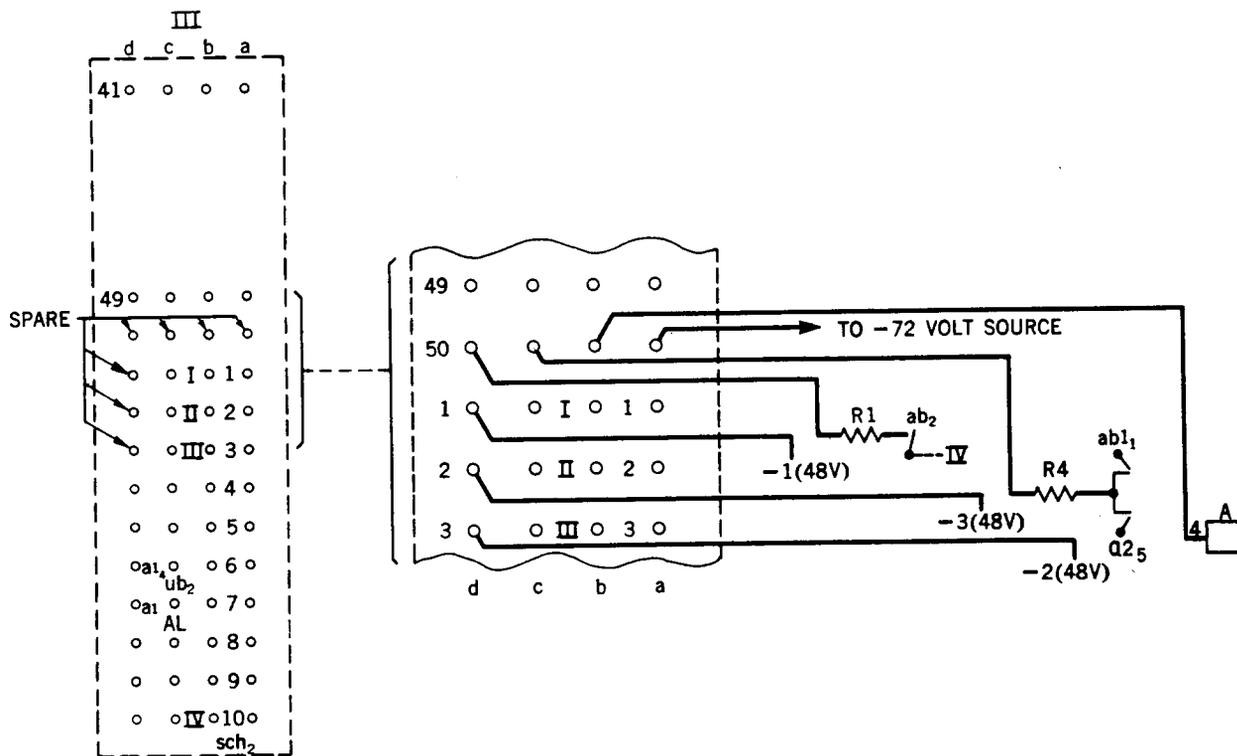

Fig. 2
*Note:* Central office units modified prior to the issuance of Issue 2 of this practice have been wired per Fig. 2 and strapped per Table A. This information has been retained to aid in restrapping units already modified but it is recommended that future units be modified as given below.